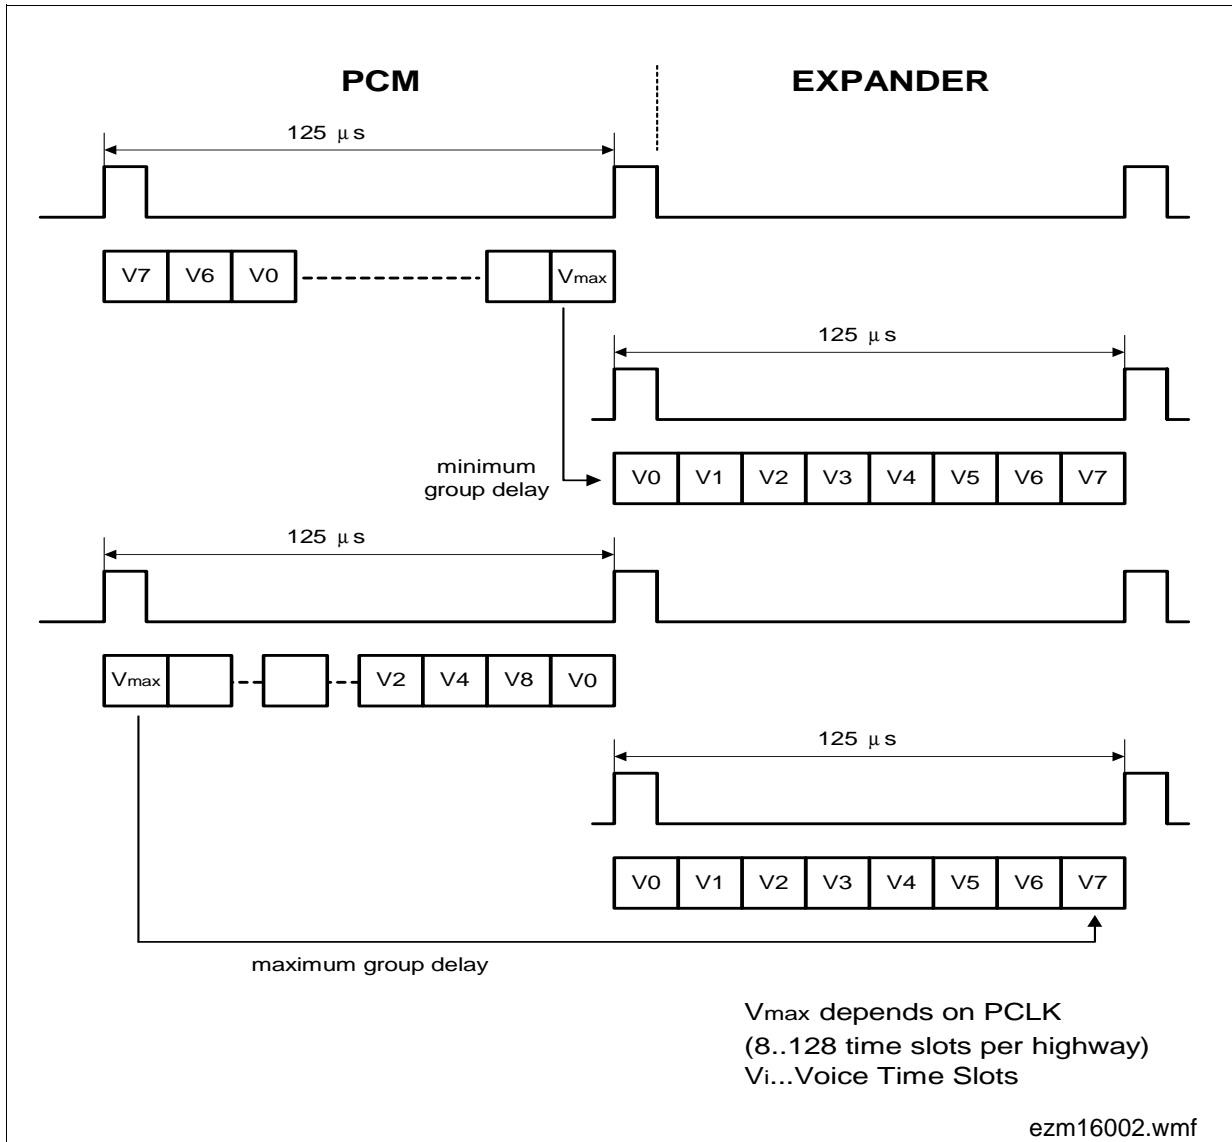

**Figure 11 PCM-Group Delay Transmit**
**Figure 11** shows the conditions for the minimum and maximum group delay. In the minimum the group delay is almost 0, whereas in the maximum the delay will be almost 2 FSC's (~ 250 μs).